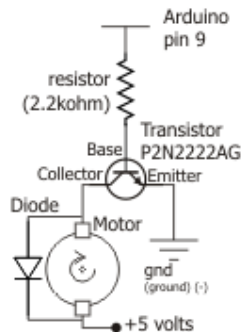
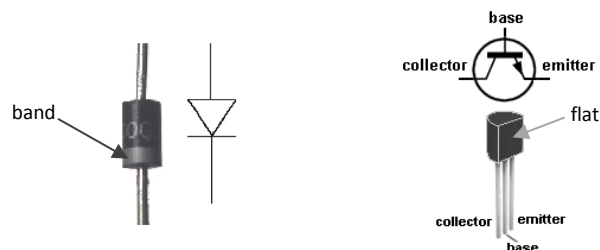
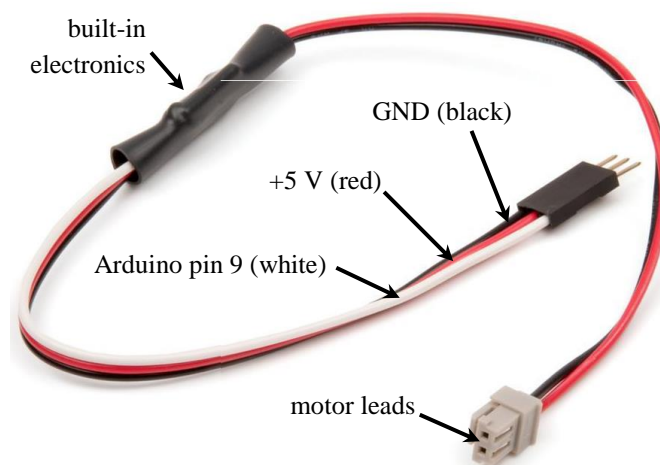

Figure 10: Circuit diagram for connecting the DC motor
Figure 11: Orientation of diode silver band (left) and transistor flat side (right) relative to their circuit symbols.
Figure 12: Motor connector including built-in transistor circuitry.
The second problem driving DC motors is that they generally require more current than can be supplied by an Arduino digital output pin; digital pins can supply 40 mA while the 5 V pin can supply 200 mA¹. Currents around 200 mA are sufficient to drive small DC motors, but without the PWM capabilities of the digital output pins, speed could not be varied. To resolve this, the digital pin can be used to instead drive a transistor to pass current to the motor from the 5 V power pin as in Figure 10. A transistor essentially acts as a voltage controlled switch, allowing current to flow through the DC motor according to the PWM duty cycle applied to its base.
Notice in Figure 10 that a resistor and diode are also connected in addition to the transistor. The purpose of the transistor is to open or close a channel for current to flow from the collector to the emitter, but some current passes through the base as well. Without the base resistor, this current could become large since current is high through circuits with little or no resistance. Under normal operation, current will flow from the 5 V power source through the motor, into the collector, and out the emitter to ground. However, DC motors are inductive devices and current can flow through them in the opposite direction for short periods of time when power is turned on or off. If current attempts to flow backward through the motor, the diode offers a lower resistance path that will protect the motor.
Driving high current devices from low current microcontroller output pins is relatively common, not only with motors but solenoids as well. The effort in wiring the electronic components in Figure 10 can be avoided by using a connecting wire with the electronics built-in as appears in Figure 12. The same Arduino sketch can be used whether connected as in Figure 10 or 12, the only difference is in the complexity of the necessary wiring.
in place, and complete the DC motor tutorial⁵ as an example of how an Arduino can drive DC motors. Refer to Figure 11 for diode and transistor orientation. Be sure to demonstrate motor operation using the circuitry in Figure 10 for full credit. OPTIONAL: afterwards, circuitry from Figure 10 can be replaced with the connecting wire in Figure 12. With the button, LED, and motor subcircuits in place, separately wire the potentiometer by following the AnalogReadSerial⁶ tutorial.
3. 25 points: Successful operation of the DC motor tutorial using Figure 10